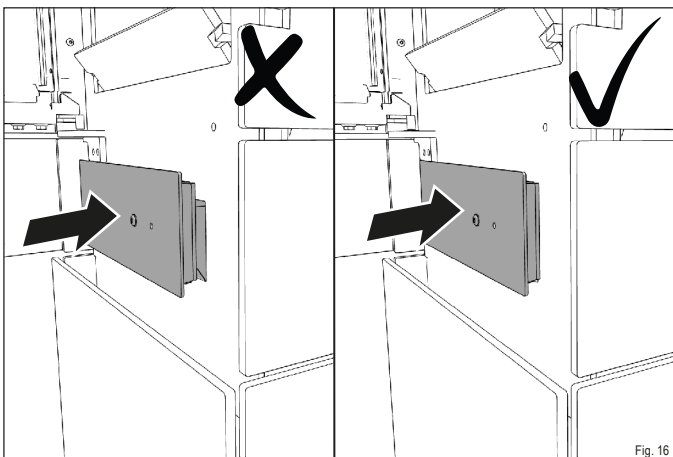

Fig. 16
- ✓ **Slide the ash drawer back into the opening so it is flush with the seal (Fig. 16).**
- ▶ Slide the ash drawer back into the opening so it is flush with (Fig. 16).